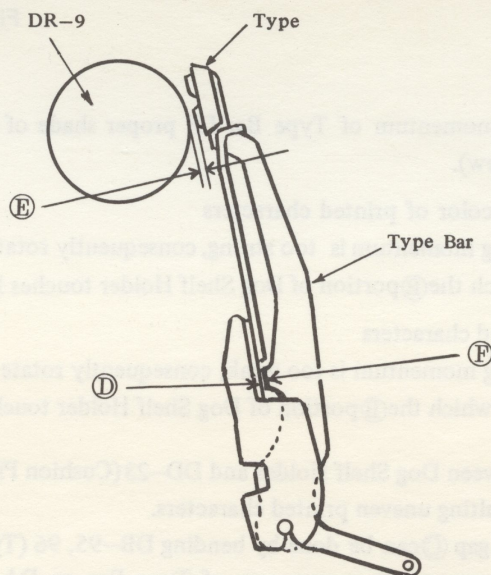

Fig. 11
- (4) The desirable clearance ① between DR-9 (Platen) and Type when Type, Bar is depressed by hand until clearance ② is disappeared, is 0.05 to 0.2 mm. However 0.3 to 0.4 mm of clearance is desirable for small size character (such as comma, period and hyphen etc. for example), consequently adjust for correct clearance by battering the ② portion of Type Bar or by scraping off the ② portion for excessive said clearance. (Fig. 11)